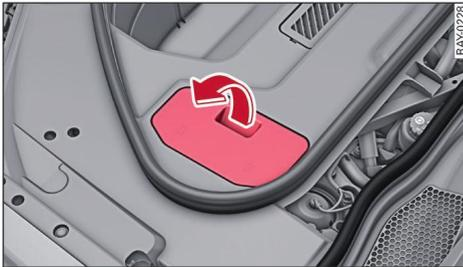

Fig. 123 Front compartment: Removing cover (on vehicles with storage compartment)
- ▶ Remove the cover ⇒ Fig. 123 if your vehicle is equipped with a storage compartment.
- ▶ After checking the coolant level, replace the cover ⇒ Fig. 123 if your vehicle is equipped with a storage compartment.